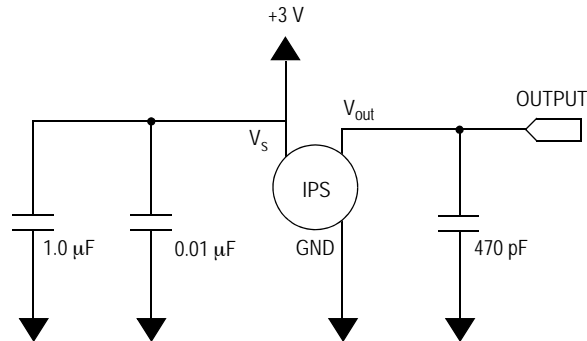

Figure 3. Recommended Power Supply Decoupling and Output Filtering (For additional output filtering, please refer to Application Note AN1646.)
**Table 1. Operating Characteristics** ( $V_S = 3.0$  Vdc,  $T_A = 25^\circ\text{C}$  unless otherwise noted,  $P_1 > P_2$ . Decoupling circuit shown in Figure 3 required to meet specification.)
Figure 3 shows the recommended decoupling circuit for interfacing the integrated sensor to the A/D input of a microprocessor or microcontroller. Proper decoupling of the power supply is recommended.
Figure 4 shows the sensor output signal relative to pressure input. Typical, minimum, and maximum output curves are shown for operation over a temperature range of 0° to 85°C using the decoupling circuit shown in Figure 3. The output will saturate outside of the specified pressure range.